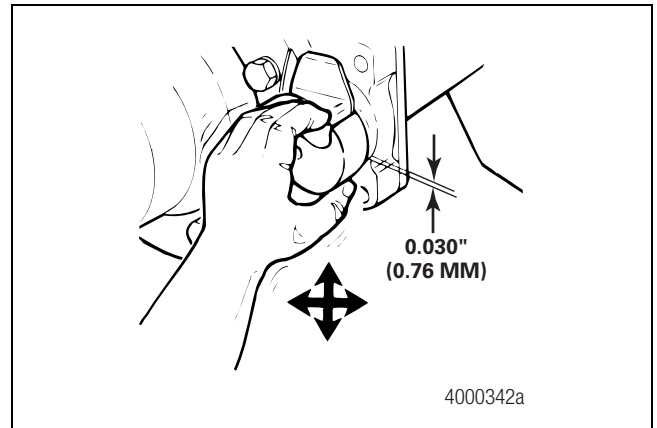

Figure 5.7
- Move the camshaft as shown in Figure 5.7. Use a dial indicator to verify that the cam-to-bushing radial free play is within specification.